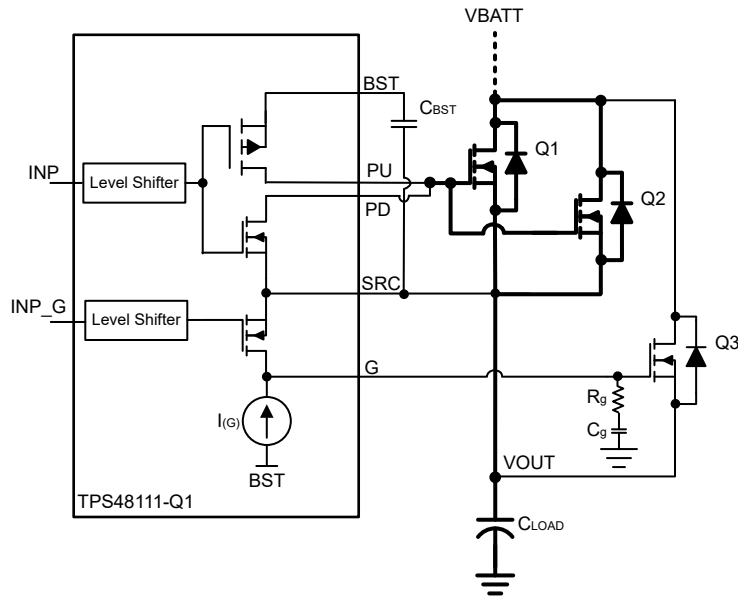

图 8-7. Capacitor Charging Using Gate Slew Rate Control of Precharge FET
The TPS4811-Q1 integrates precharge gate driver (G) with a dedicated control input (INP\_G). This feature can be used to drive a separate FET that can be used to precharge the capacitive load. 图 8-7 shows the precharge FET implementation for capacitive load charging using TPS4811-Q1. An external capacitor  $C_g$  reduces the gate turn-ON slew rate and controls the inrush current.